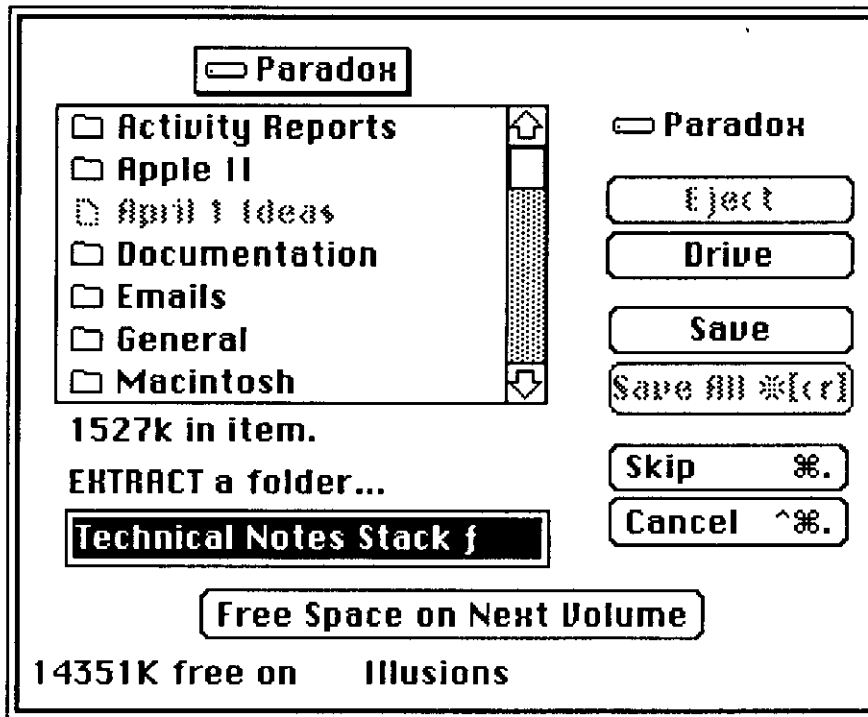

Figure 4—Extract Standard File Dialog
- 4) Choose “Technical Notes Stack f:” by clicking on it, then click on the Extract button to place this folder where you would like it on the hard disk. You will be prompted with the dialog box in Figure 4. When you have chosen the location of the folder, click on the Save button to begin installation.